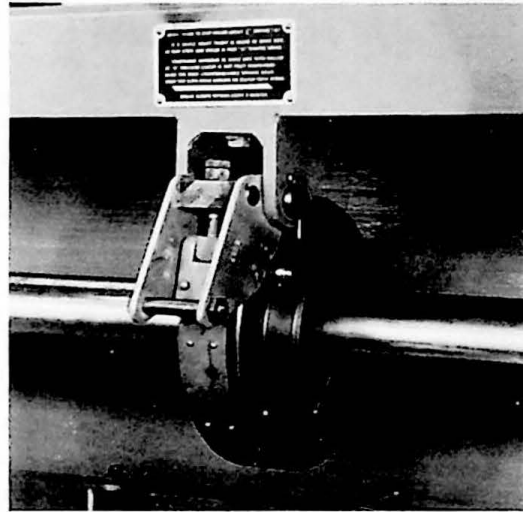

Fig. 32. Friction Brake
2. The brake roller, or arrow on 62 and 100 series shears, should be between "A" and "B", $\frac{1}{4}$ " before A. See Fig. 32.